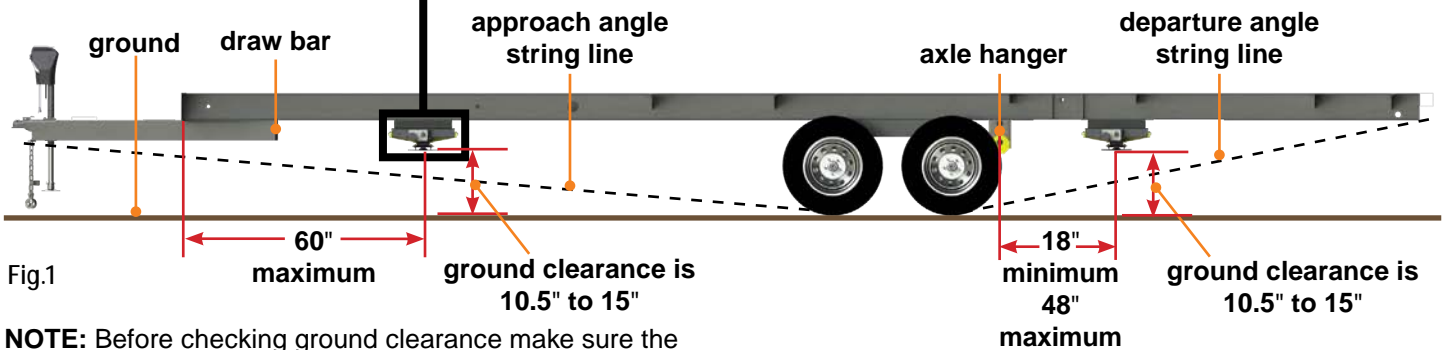

Fig.1
Departure and approach angles are measured by running a string line from the meeting point of the tire and ground up at an angle to the lowest point on the front or rear of the trailer. These string lines are shown as dotted lines (Fig.1).
**NOTE:** Measure from the front of the frame and make a mark at 60". This will be the maximum allowable distance for the location of the center of the C-Jack foot pad. The final location should be as close to the draw bar as possible, staying within the approach angle (Fig.1).
**NOTE:** Measure from the center of the rear axle hanger to the center of the rear C-Jack foot pad. The minimum allowable distance is 18" and the maximum is 48", staying within the departure angle (Fig.1).
- 2. Measure from the center of the rear axle hanger (Fig.2A) and make a mark on the I-beam at 18" (Fig.2B) and at 48" (not shown) for the minimum and maximum distance. Align the center of the I-beam mounting bracket between the 18" mark and the 48" mark, staying within the departure angle (Fig.1). Ensure the bracket lip (Fig.2C) is flush with the outside lip of the I-beam.
2. Measure from the front of the frame and make a mark at 60". This will be the maximum allowable distance for the location of the center of the C-Jack foot pad. The final location should be as close to the draw bar as possible, staying within the approach angle (**Fig.1**). Ensure the bracket lip (similar to **Fig.2C**) is flush with the outside lip of the I-beam.